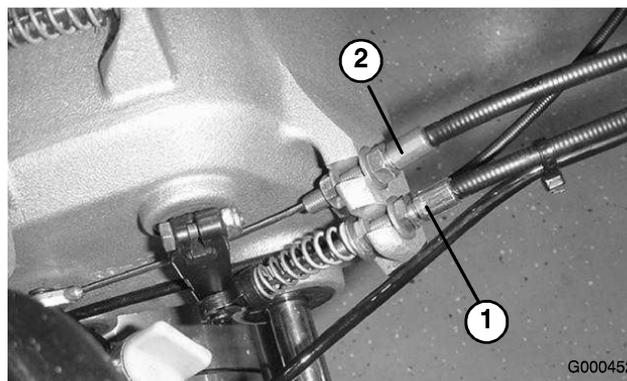

Figure 29
2. To increase cable tension, loosen front cable jam nut and tighten back cable jam nut (Figure 29) until a force of 6-9 lb. is required to engage brake. Force to be measured at lever knob. Do not over adjust, or brake band may drag.